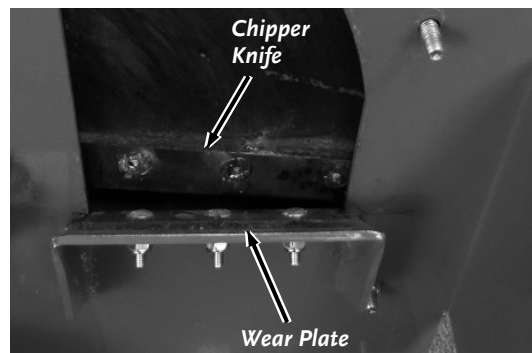

Figure 50
4. Closely inspect the Chipper Knife and Wear Plate for nicks or dull (rounded) edges (**Figure 50**).